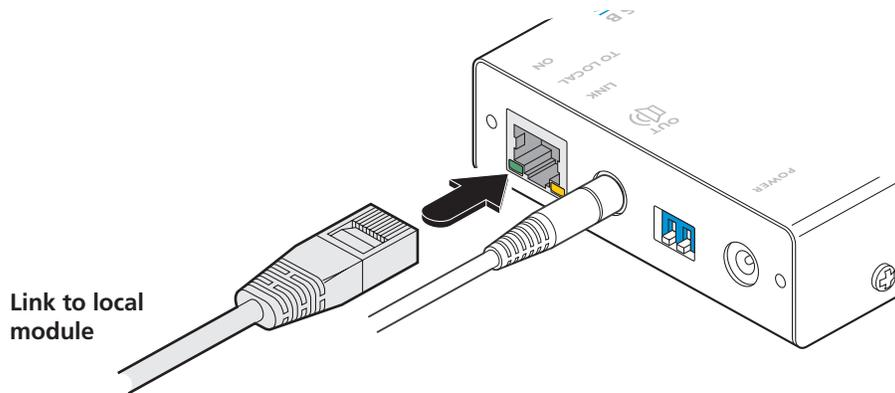

Figure 3-10. Attaching the CATx link cable
- 5 Attach the connector of the category 5, 5e, 6, 7 or 7a link cable (up to 1000 feet in length) to the 'TO LOCAL' socket on the remote module as shown in Figure 3-10: